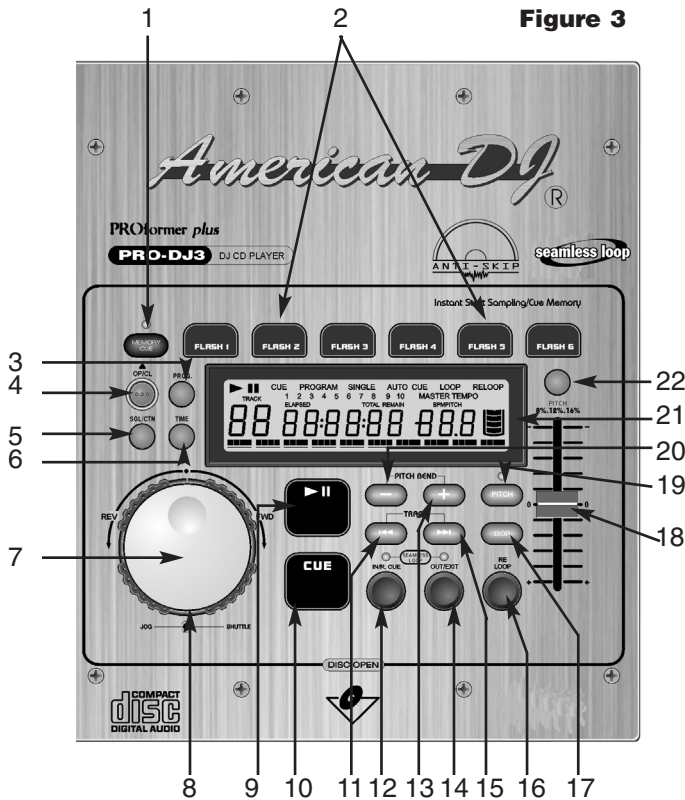

Figure 3
A. TOP UNIT CONTROLS (FIGURE 3)
1. MEMORY CUE - Pressing the MEMORY CUE button after loading a new disc and before closing the tray, will restore any Cue memory that may be stored on that disc. A maximum of six (6) Cue points can be stored on a disc and a maximum of 40 Cue points can be stored in the player's memory. When closing the tray door the "STORE" will be displayed in the LCD indicating that the MEMORY CUE button has been pressed and any sampled loops or Cue points stored in memory will be recalled.
2. CUE BUTTONS 1-6 - These buttons are used to store six (6) cue points or six (6) samples. There are seven (7) independent cue points that can be stored into memory, six (6) on Cue buttons 1-6 and one (1) on the main CUE BUTTON (10).
3. PROGRAM - This button allows you to enter program mode. If a CD is playing, pressing this button will stop the CD and enter into the program mode. Note the word "PROGRAM" is indicated in the LCD DISPLAY (21). After programming your tracks pressing the PLAY BUTTON (9) will play